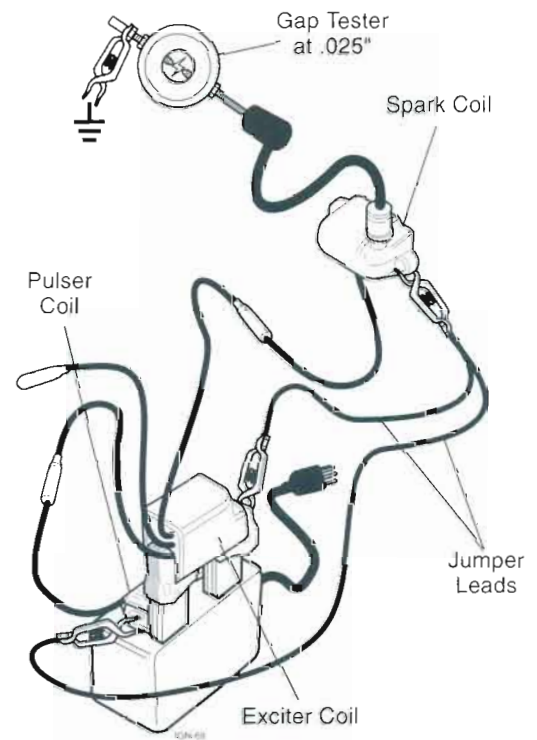

Figure 5.21 Three-piece Coil on a Simulator
- Three-piece ignitions can be tested by placing both the exciter coil and pulser coil on the simulator at the same time, and then making the remaining plug-in and jumper connections to the spark coil (Figure 5.21).